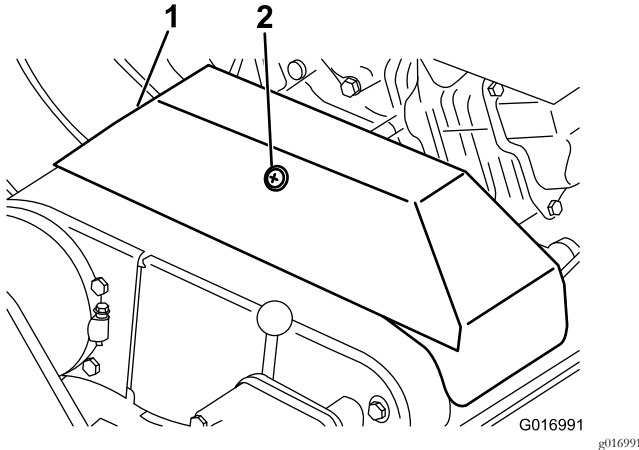

Figure 40
2. Loosen the retainer securing the V-belt cover and pivot the cover open (Figure 40).